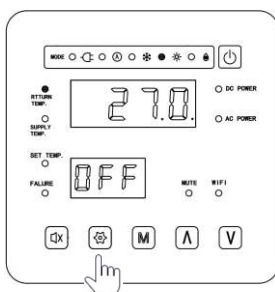

Fig.9 Entering setting interface
- ① In the main interface, short press “” for entering the user setting interface. After selecting parameter group "UU" by short pressing “” or “”, click “” to enter WIFI network function, while the WIFI indicator blinking (Fig.9~11);